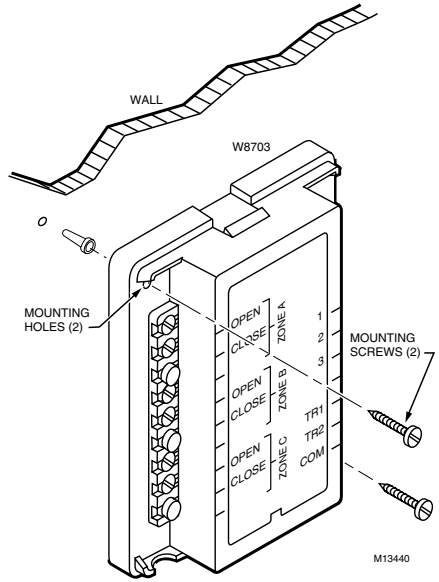

Fig. 2. Mounting W8703A Damper Interface Module.
6. Remove the W8703A from the wall or cold air return and drill 3/16 in. holes in the wall (if drywall) where marked. For firmer materials such as plaster or wood, drill 7/32 in. holes. See Fig. 2.